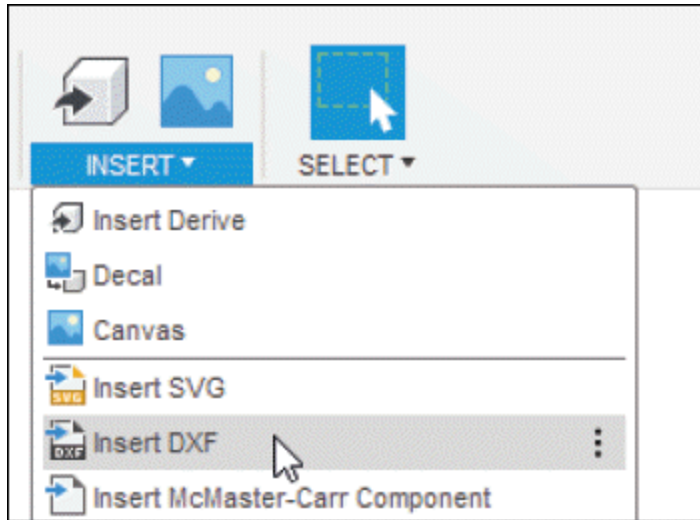
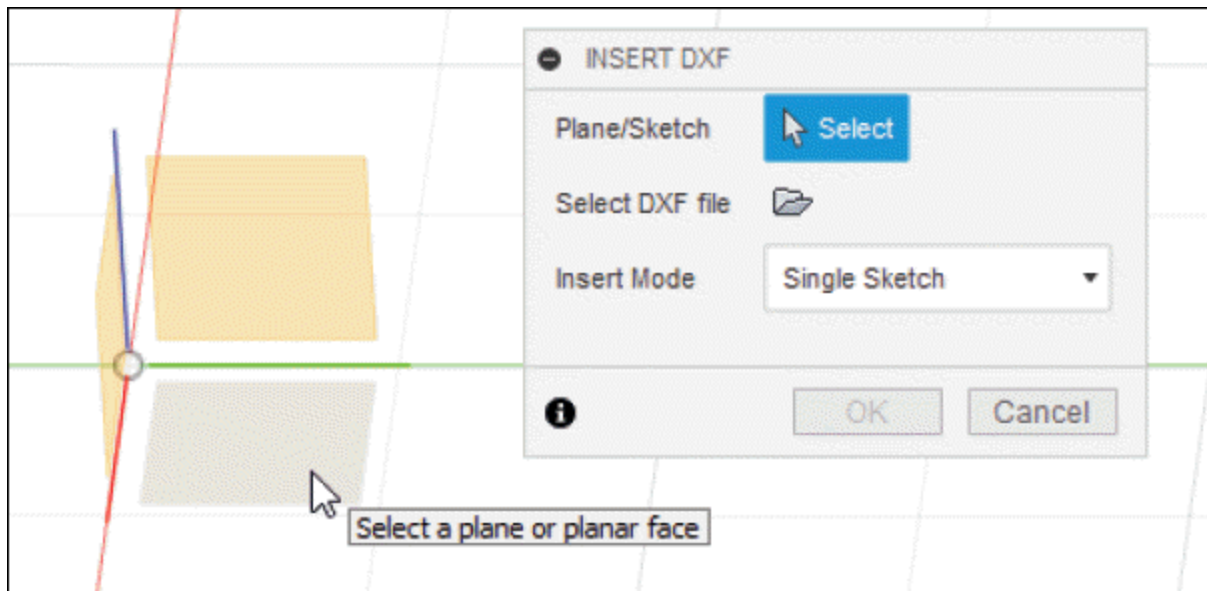

Figure-18. Insert DXF tool
Figure-19. INSERT DXF dialog box
- Click on the **Insert DXF** tool of **INSERT** drop-down from **Toolbar**; refer to Figure-18. The **INSERT DXF** dialog box will be displayed; refer to Figure-19.